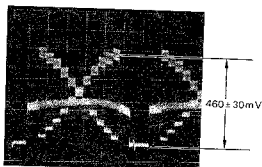

Fig. 5-7
- Adjust data by ARROW keys so that signal level becomes 460 ± 30 mV as shown in Fig. 5-7.